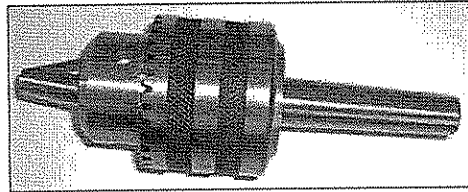

Fig.19
- a). First, insert the taper shank into the drill chuck as shown in Fig. 19.